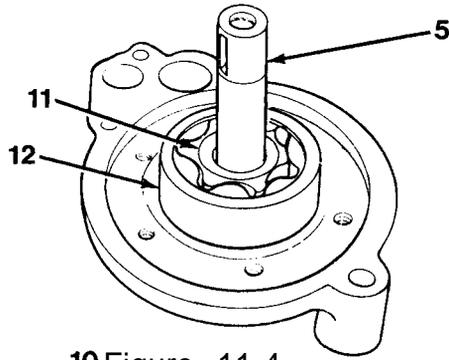
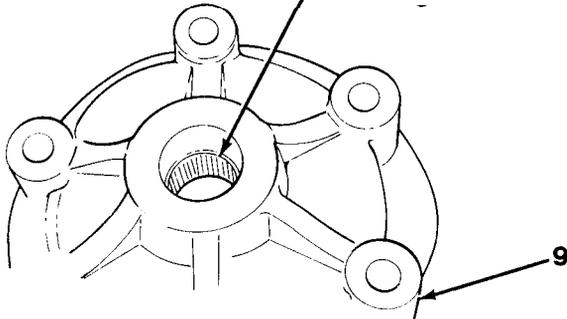

Figure 11-4
Figure 11-3
5. Install greater assembly (12) onto shaft (5, Figure 11-4).
6. Install thrust race (11) onto shaft (5).
7. Install bearing (10) in charge pump retainer (9, Figure 11-3).